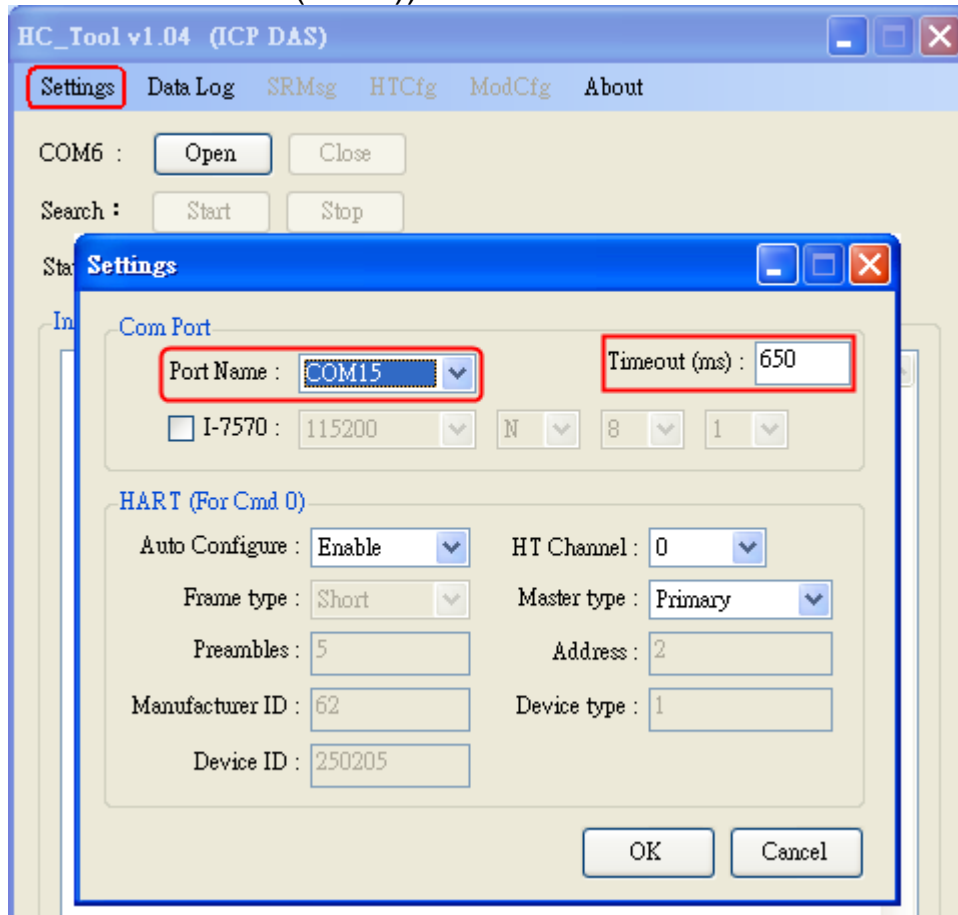

Figure 4-2: Set Serial Port No.
Please click “**Settings**” menu to open settings window of serial port and HART parameters like Figure 4-2.
- (1) Please select serial port no. of PC like Figure 4-2.
- (2) “**Timeout**” Field: HART command Timeout value. The default value is 650ms. (Supported by HC\_Tool v1.04 or newer. When using HART pair-connection function, suggest to set the timeout value to be 2000 (2 sec))